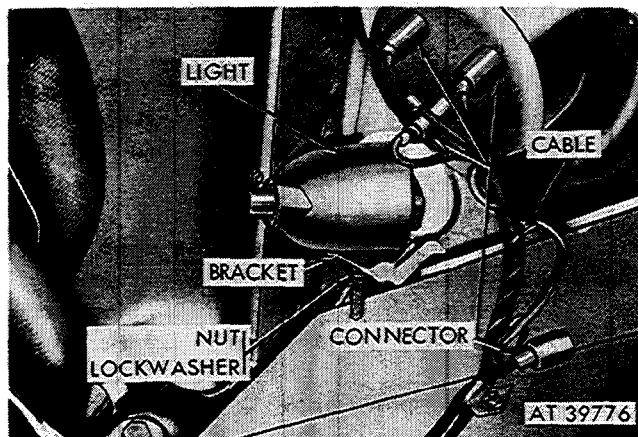

Figure 2-203. Remove blackout marker light assembly (M151, M151A1, M151A1C, and M718 Vehicles).
(1) Grasp cable at connectors and pull, separating male and female connectors (fig. 2-203).
(2) Remove nut and lockwasher securing
blackout marker light assembly to bracket (fig. 2-203).